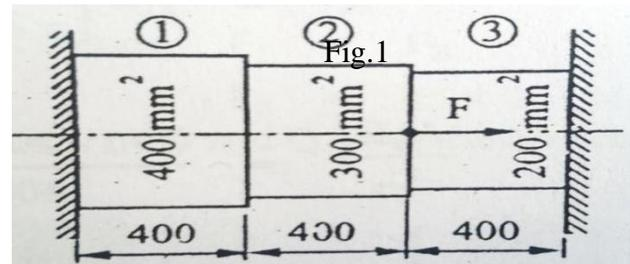

Fig.2
4. A stepped shaft is shown in fig.2 determine the stress and deflection in each of section assume uniform material for the complete shaft having a modulus of elasticity as 200 Gpa and axial force as 35 KN .